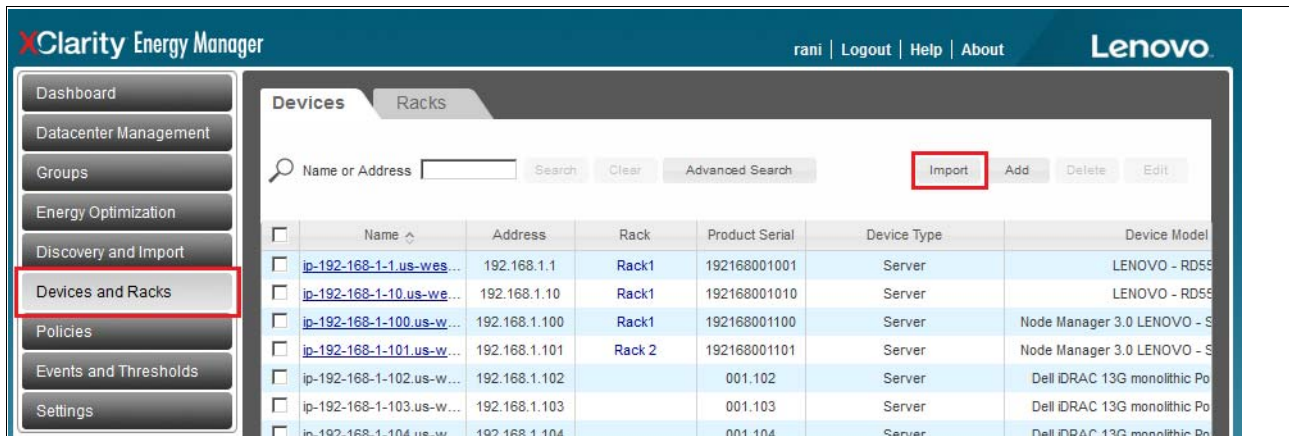

Figure 7-41 Discovery and import from Excel file
- Import devices (or an entire hierarchy) from an xls: To import devices or the hierarchy from an Excel file, start from the **Import** button in **Devices and Racks** as seen in Figure 7-41. For the Excel file requirements, refer to the *Lenovo XClarity Energy Manager User Guide* located at this URL: